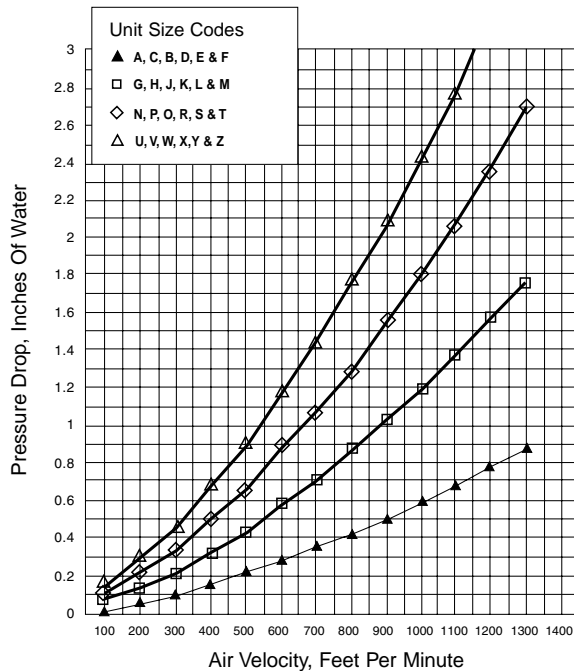

Figure 72D. ULTRA-SAFE™ Pressure Drop Curve
**Pressure drop** through the heater can be determined by using figure 72D for the ULTRA-SAFE™ duct heater.